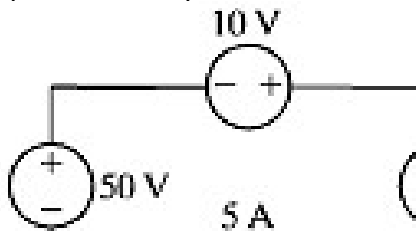

Figure B1
1. Consider the network shown in figure B1. If the interconnection is valid, find the total power developed in the circuit. If the interconnection is not valid, justify.